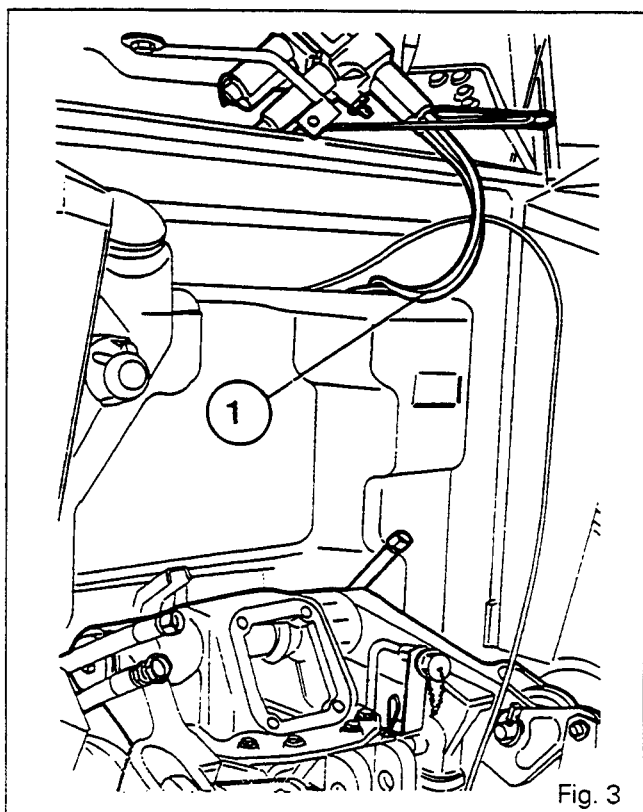

Fig. 3
6. Remove the support swinging the assembly out of the way, without disconnecting the controls (1) (Fig. 3).